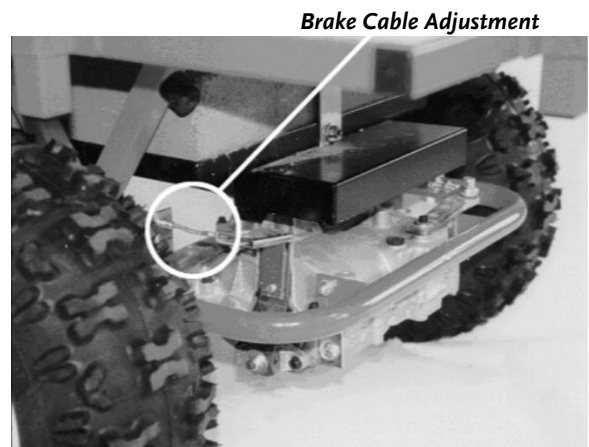

Figure 20
**NOTE:** The Parking Brake Cable is factory set (**Figure 20**). If you think the Brake Cable needs adjustment, you may actually need to replace the Brake Pads. See below.